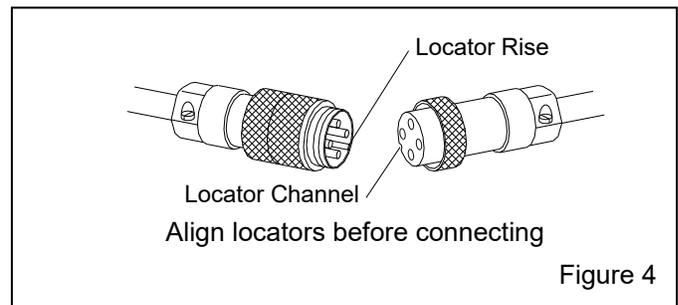

Figure 4
3.3 Connect cable to the monitor and the alarm: Before connecting the cable connectors, make sure they are correctly aligned by lining-up the locators of each connector, as shown in Figure 4. Route the cable to ensure that there will be no contact with ground traffic or high reach equipment.